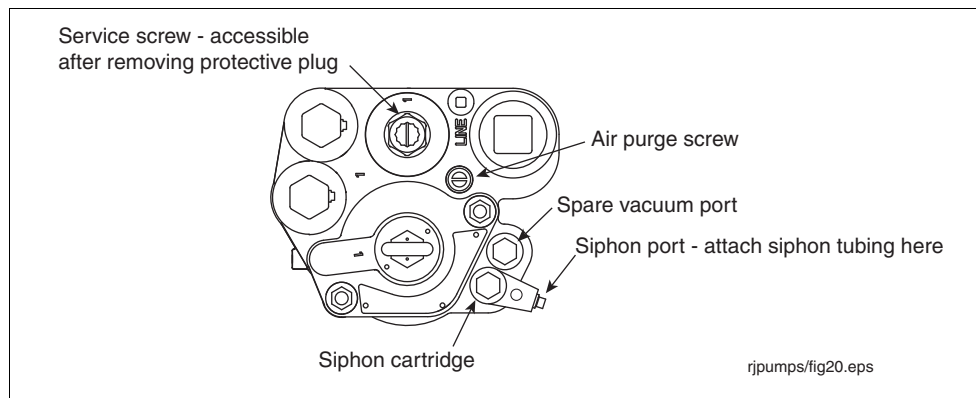

Figure 33. Siphon Ports
2. Remove and save the protective plug over the service screw and turn the screw clockwise (see Figure 33). As the screw approaches its bottom position, you will hear the system depressurizing. Continue turning the screw until it can go no further. When the screw is all the way down, backoff the screw 4 turns to lift the check valve and let the fuel drain out of the manifold's hydraulic cavities.
3. Remove one of the two siphon port plugs from the manifold (see Figure 33).
9. Turn the air purge screw 2 - 3 turns counterclockwise (see Figure 33).